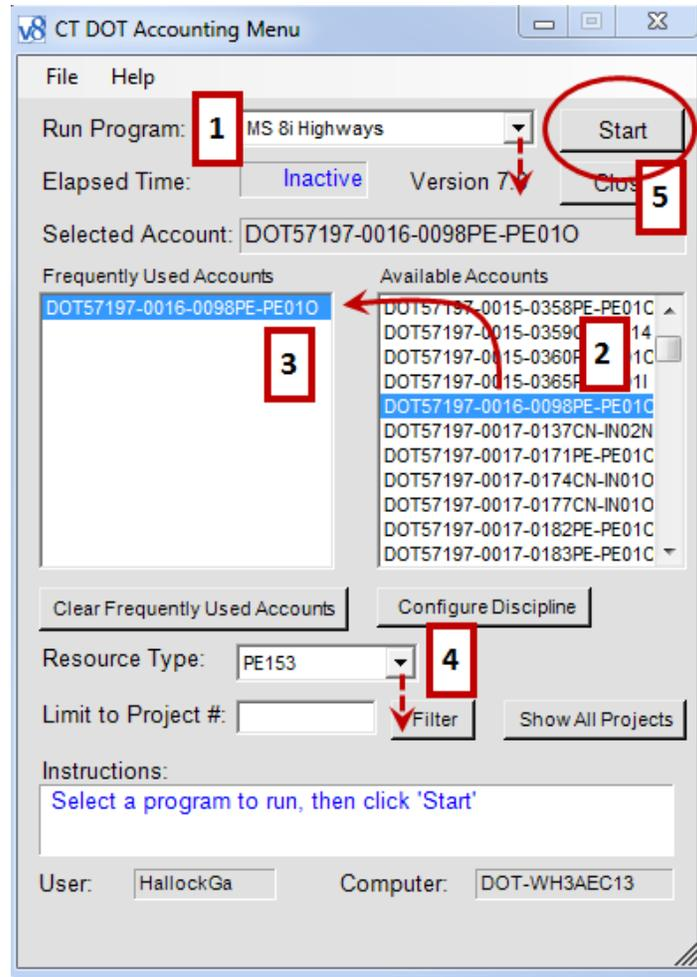

Figure 1 - Accounting Menu
E. Within the CT DOT Accounting Menu select **Run Program:** (1), choose **MS 8i Hydraulics** (Highway). Select the project number for your project from the Available Accounts (2) and then highlight it within the Frequently Used Accounts (3). Select the correct Resource Type (4) and click on Start (5) button, see Figure 1.